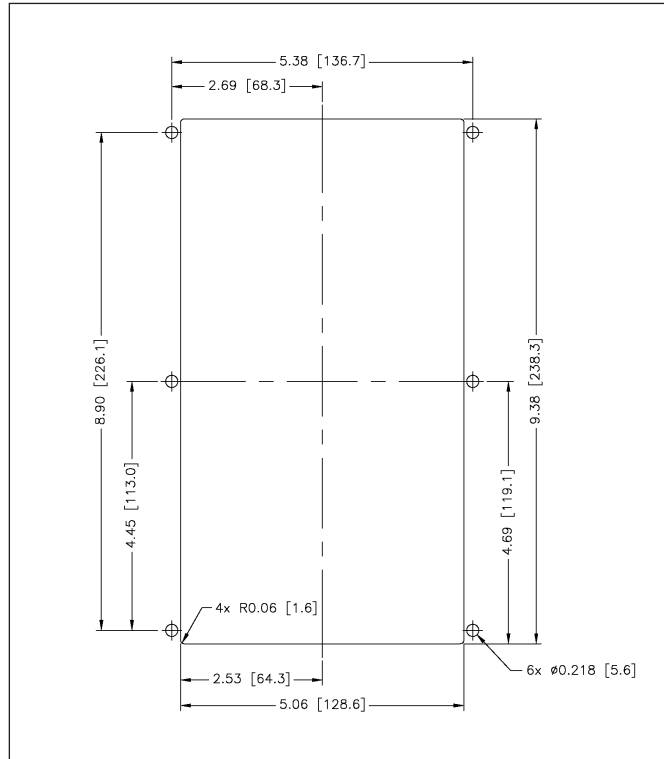

Figure 16. RDP cutout and mounting
- Install the RDP using cutout and mounting dimensions provided in Figure 16.